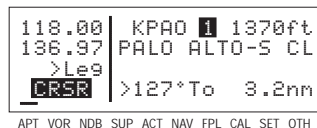

Figure 4-75
3. Rotate the right outer knob clockwise to position the cursor over “1” (figure 4-75). As long as the cursor is left in this position, this page will update so that the nearest airport is always shown as the flight progresses.